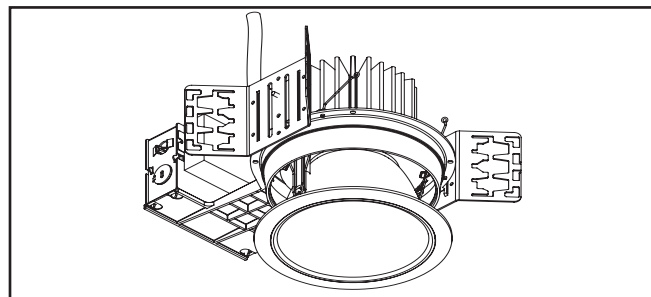

Figure 9
9. Install the LED engine and trim assembly by inserting the torsion springs into the spring receivers located inside the housing (Figure 9.).